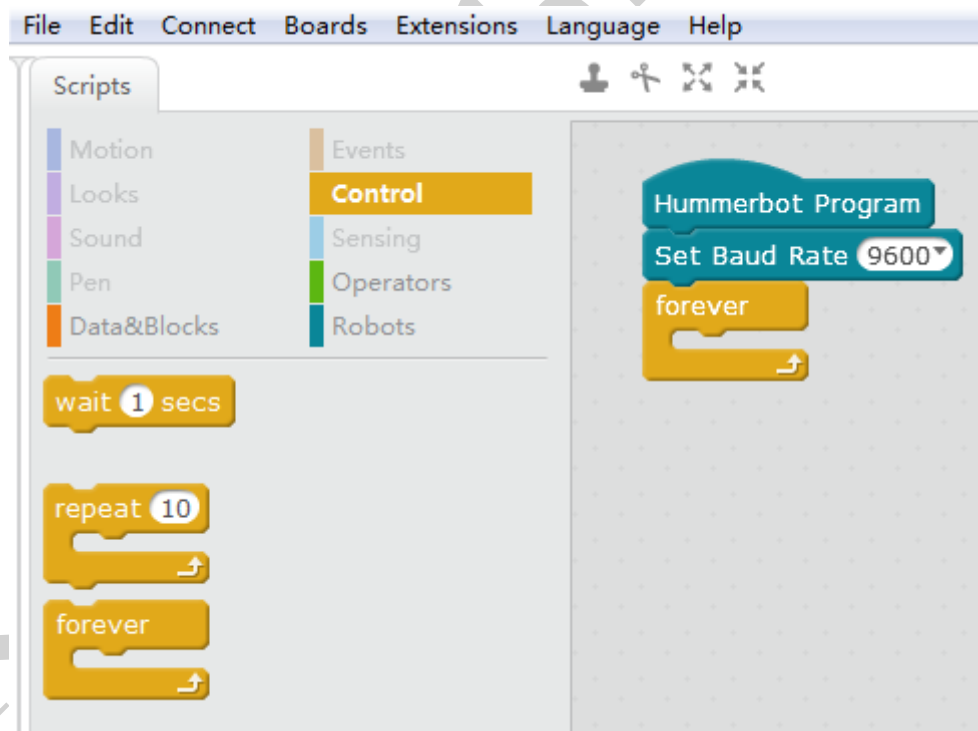

Figure 2-7
2) Click the “Control” tab in the tab area and drag the “Repeat” building block to the bottom of the Hummerbot main program in the script area, as shown in Figure 2-7.